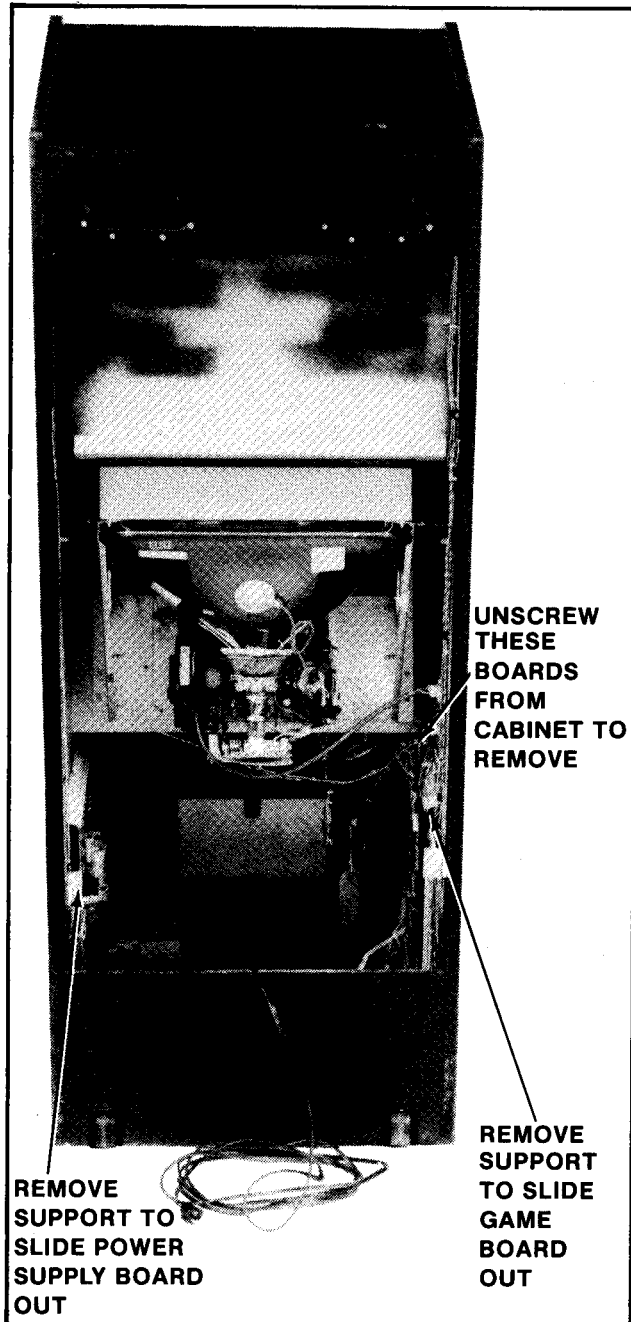

Figure 4-12 Removing P.C.B.s — Upright
1. UPRIGHT MODEL: See Figure 4-12.
- Disconnect the power supply board from all its cabling, remove the P.C.B. supports indicated in Figure 4-12, and slide it out the back of the cabinet.